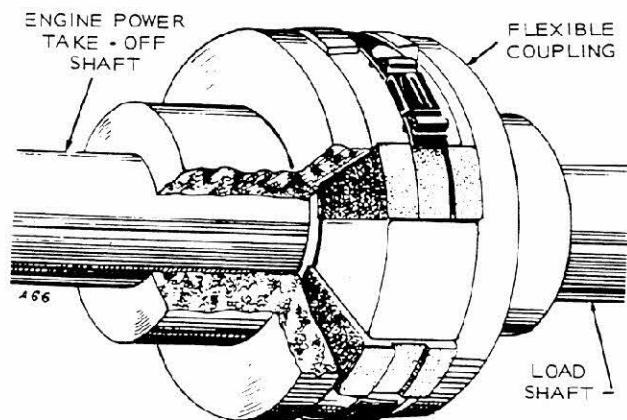

FIGURE 2. FLEXIBLE COUPLING
**Flexible Coupling:** If a flexible coupling engine-to-load drive is used, the load shaft must be in line and centered with the engine shaft, Figure 2.